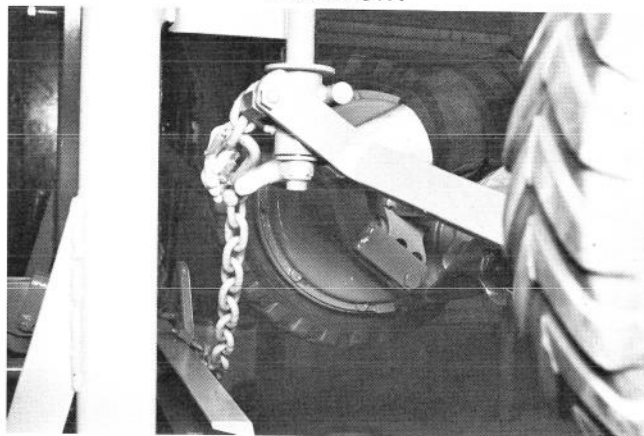

Figure 79
Your Parkmaster frame is equipped with five (5) safety chains; one each for mowers 4, 5, 6, 7, and one between 8 & 9. These chains should be used when the unit is in the transport position to prevent the mowers from accidentally being lowered when the tractor is traveling at high speeds. Figures 79, 82, & 84 show the proper attachment to the mowers. The safety chains can be stored right on frame when not being used.